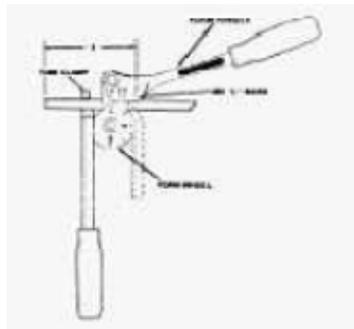

Figure 8-40. Using the "L" Mark
2. Position tube in bender as shown in Figure 8-40. If the end from which you measured is left of the tube clamp, the measured mark should be directly over graduation "L" located on the right side of the form lever and shown in Figure 8-40.